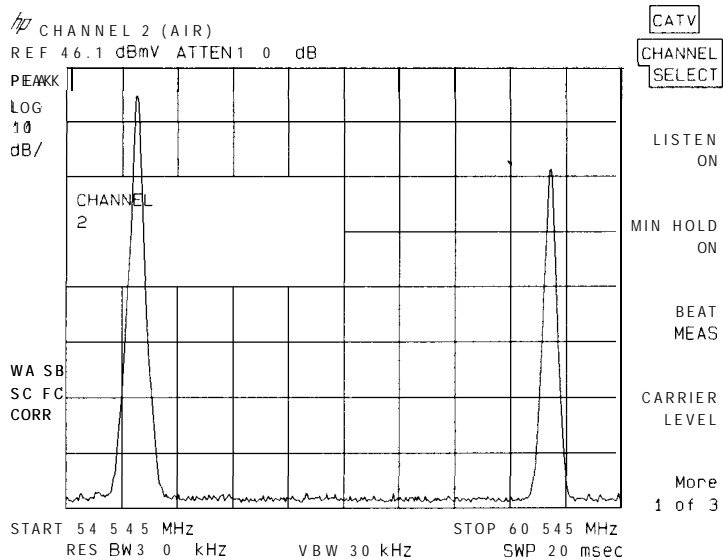

Figure 3-2.
6. Confirm the analyzer display is similar to Figure 3-2.